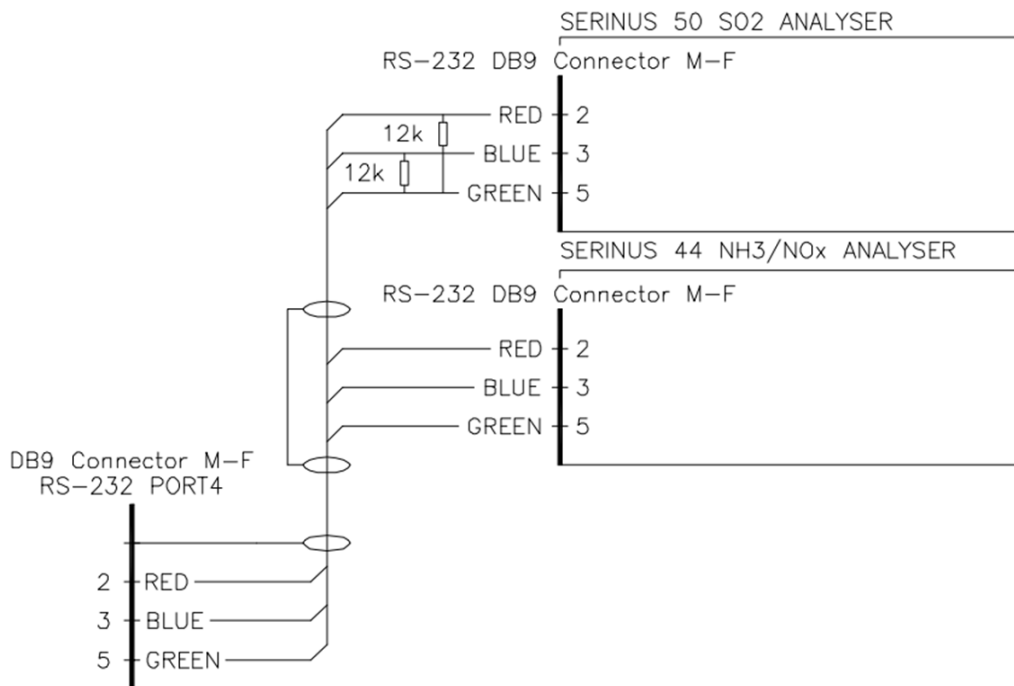

Figure 13 – Multidrop RS232 Cable Example
- A 12K ohm terminating resistor should be placed on the last connector of the cable (connect from pin 2 to pin 5 and from pin 3 to pin 5 – refer to Figure 13).